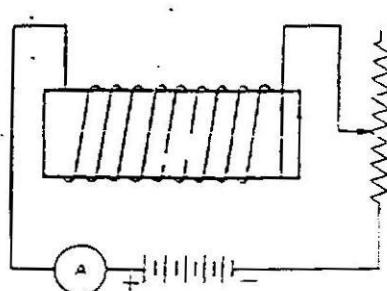
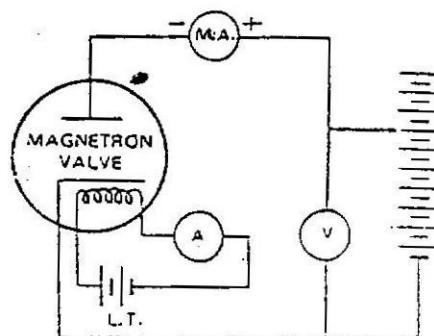

Fig. 2 (Solenoid connections)
Fig. 3 (Diode connections)
1. Connect the diode valve and solenoid with the e/m apparatus through the cable and patch chords. (refer Fig.2 and Fig.3).
4. Apply some current I_s (say 0.2 amp.) in the solenoid with the constant current source built- in the e/m apparatus and note the corresponding anode current (I_a μ A.) at fixed anode potential V (say 2 volt). Increase the solenoid current gradually say to 0.4, 0.6..... Amp and so on and note the corresponding anode current in micro-ammeter. Note these readings in table (1) as shown a head. Take at least 10-12 readings for each set.